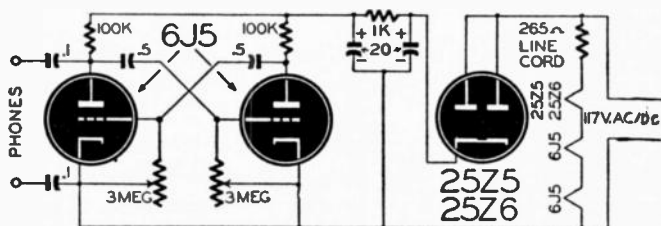

Fig. 705
A. A diagram shown in Fig. 705 should meet your requirements. It is essentially a multivibrator or relaxation oscillator; the beats may